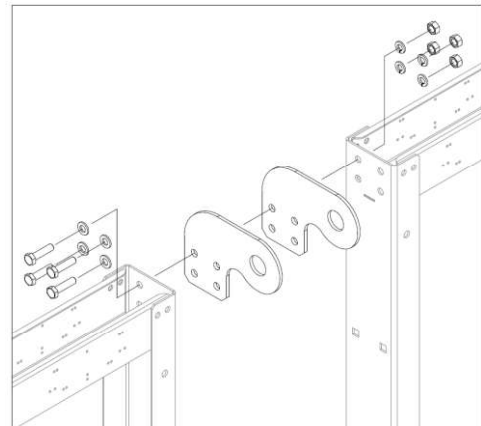

Figure 11
- 4 from the top lifting brackets. Refer to **Figure 11.**